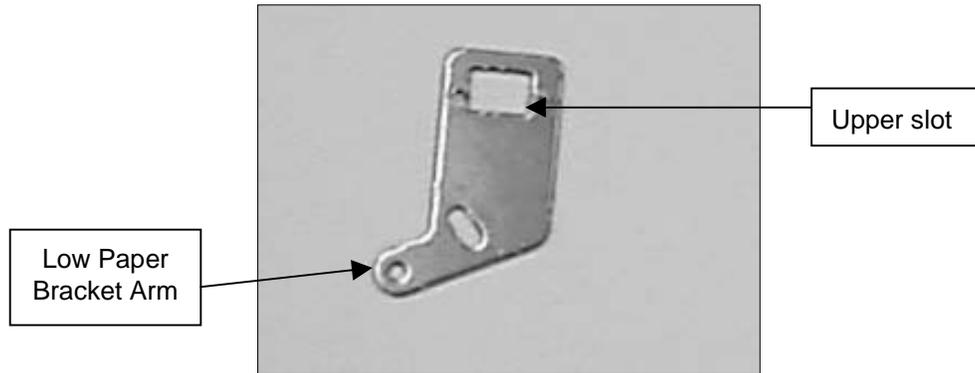
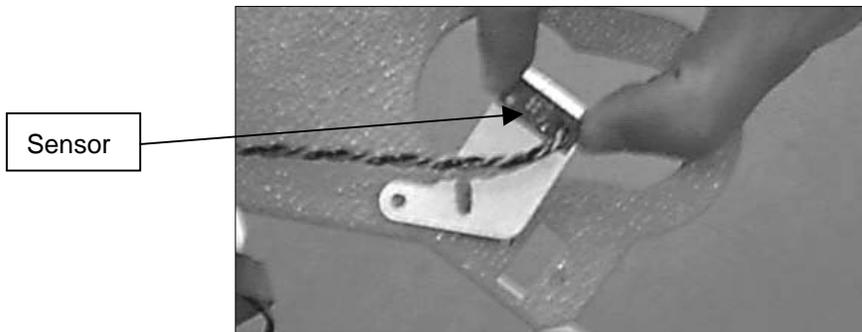

Figure 3
Figure 4
6. Holding the retrofitted bracket with the bracket arm pointing down and to the left (see fig. 3), place the sensor face down in the upper slot (see fig. 4).